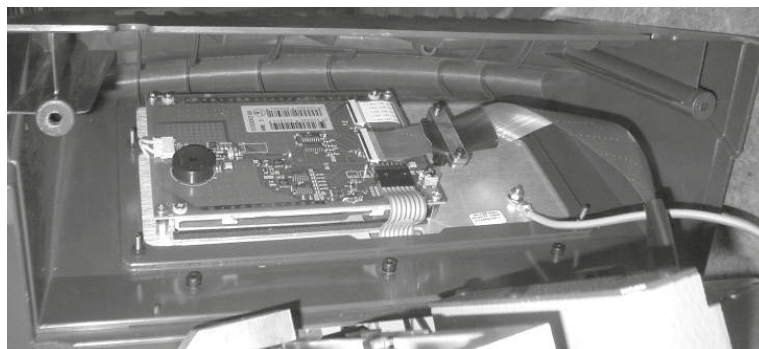

Fig. 46
3) Detach the keypad cable and earth wire as shown in Fig. 46.